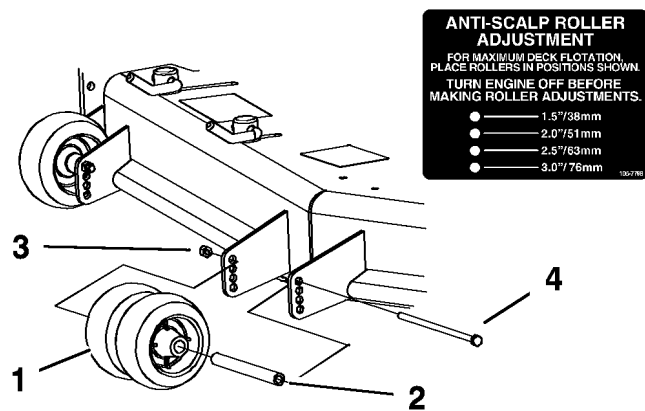
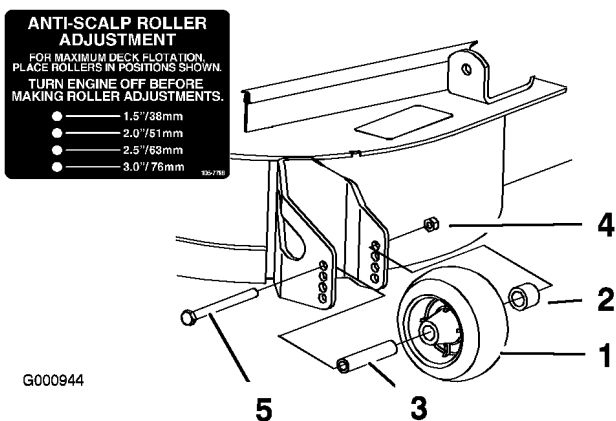

Figure 19
Figure 20
3. After adjusting the height-of-cut, adjust the rollers by removing the flange nut, bushing, spacer, and bolt (Figure 18 , Figure 19 and Figure 20).
Note: The two middle rollers will not have a spacer (Figure 19).
5. Install the flange nut, bushing, spacer, and bolt. Torque to 40-45 ft-lb (54-61 N•m) (Figure 18 , Figure 19 and Figure 20).